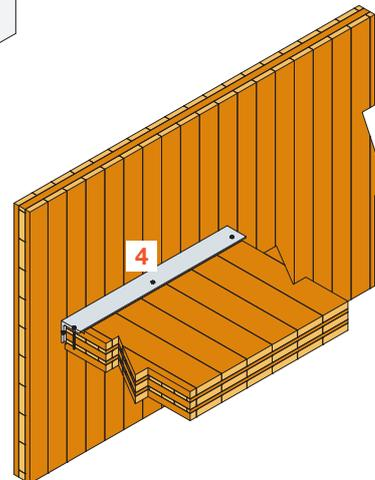

Fig. 3
- Steel wall plate: fix the floor with **SSH** screws (fig. 3).